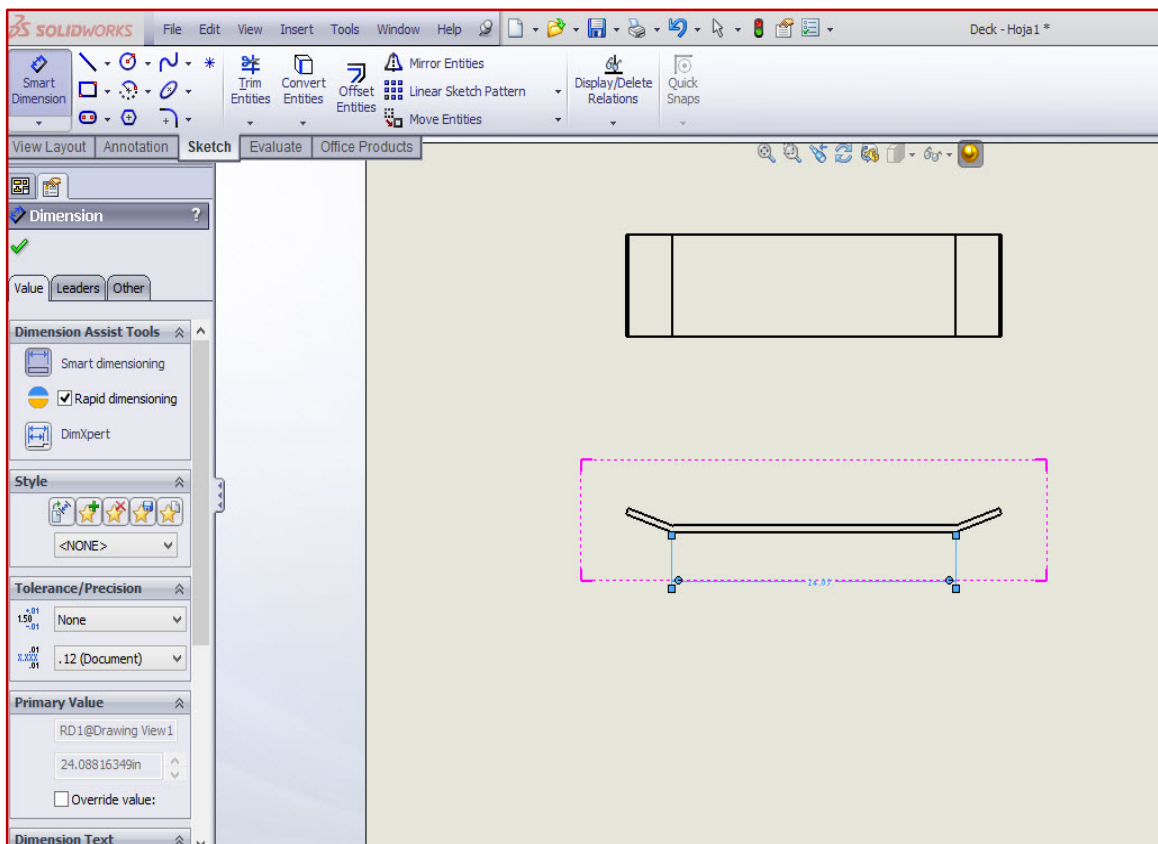

Figure 12.9 – PropertyManager
- ✓ When you click a dimension it becomes active and you can see the dimension **PropertyManager**. See Figure 12.9.